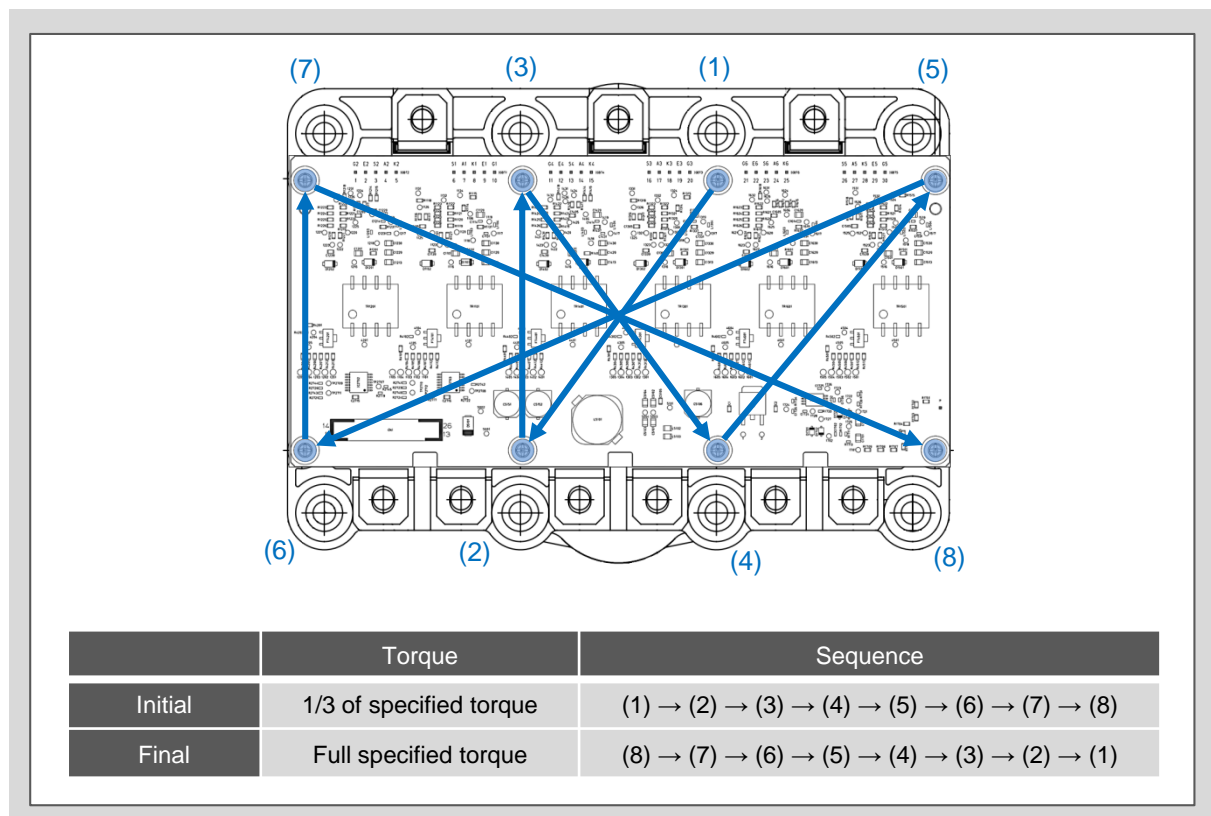

Fig. 6-2 Screw sequence for PCB fix
(b) Fix the screws temporarily with 1/3 of the final fastening torque and in the sequence from (1) to (8) in Fig. 6-2.